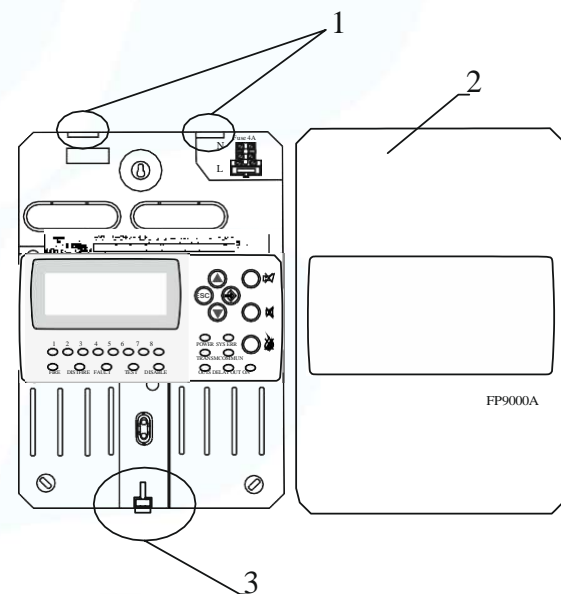

Fig. 2
- Open the front lid (Fig. 2).
- Remove the front lid by unscrewing the screw under the front panel (Fig. 2, position 3).
- Replace the front lid by mounting the lid to the circuit board box and fasten with the screw following the description on Fig.2 in reverse order.